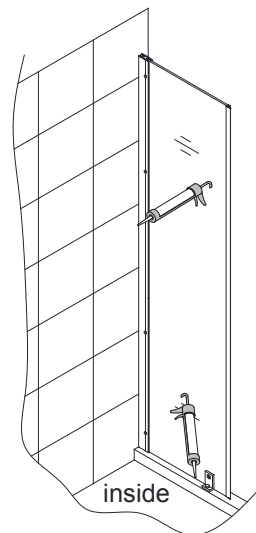

Fig 9a
9. Apply a good quality mildew-resistant silicone along the connection of the **Wall Profile (#09)** to the wall and the panel glass to the threshold. (Fig 9a)